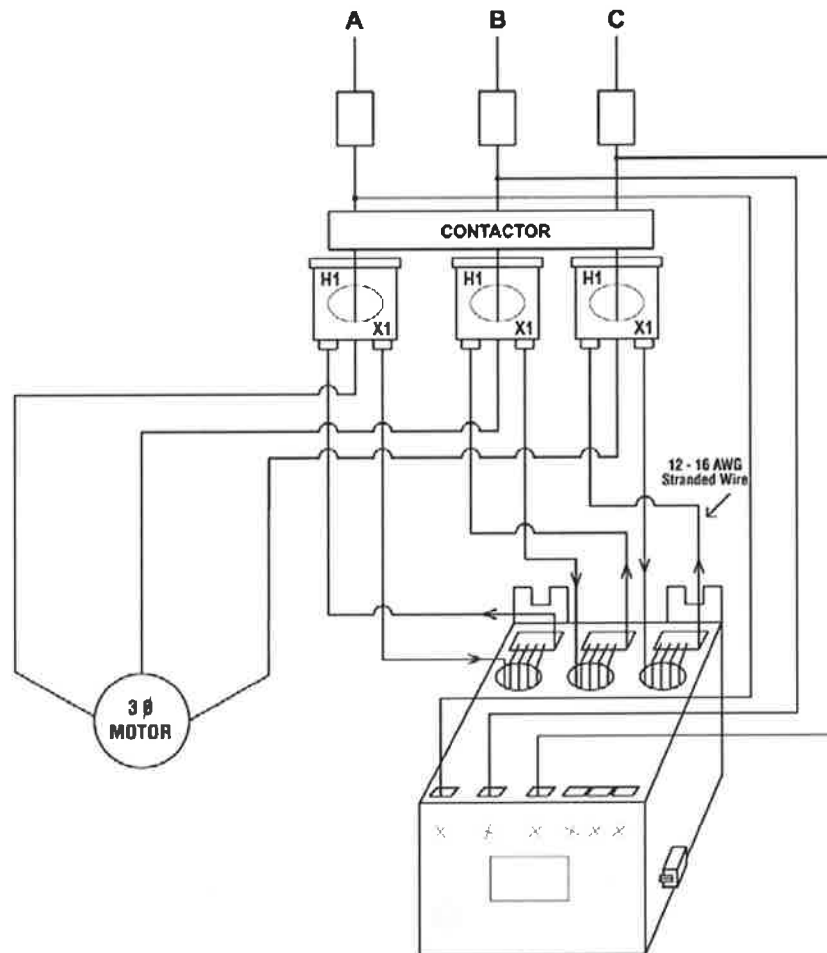

Figure 3: Typical Wiring Using External CTs¹
c) For amperages greater than 90 amps, external CTs (current transformers) are required. SymCom recommends using CTs with terminal connections for easier installation. All CT secondaries must make five passes through the round holes on the MotorSaver®Plus. See Figure 3 for a typical wiring diagram using external CTs.